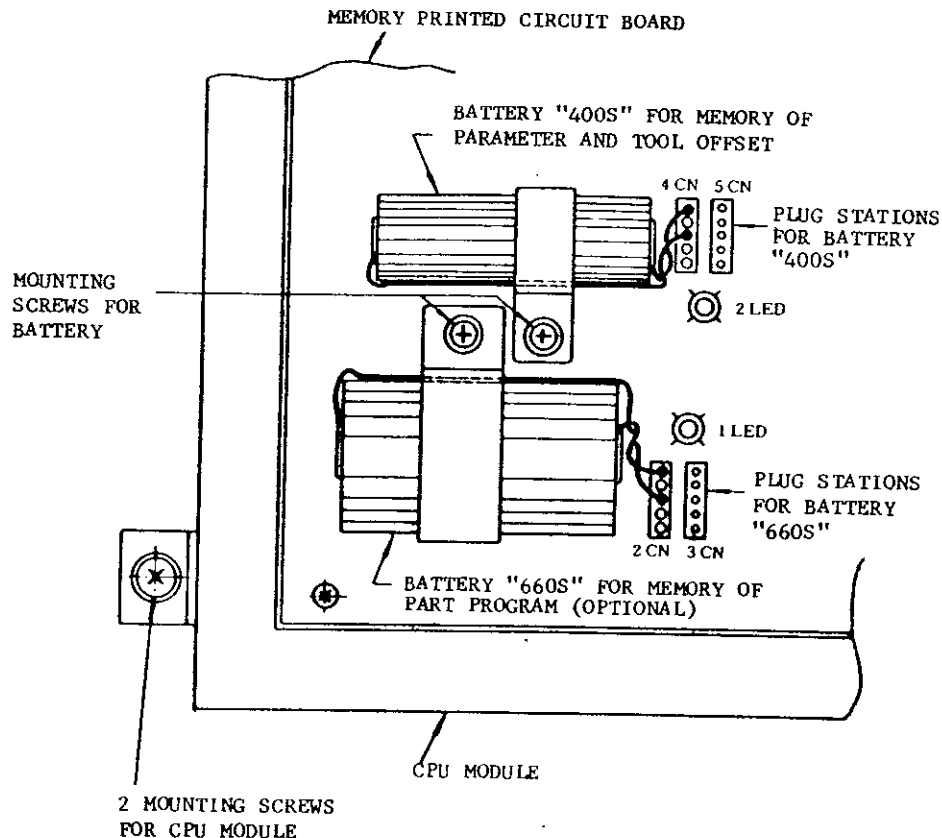

Fig. 8.2.1 Arrangement of LED and Battery
4. Check if LEDs (1LED and 2LED) on memory board are lighting. Fig. 8.2.1 shows the arrangement of LEDs and the battery.
5. With the control power turned on, connect the receptacles of the new battery into the plugs (3CN or 5CN) on memory circuit board, and LED will be turned off. See Fig. 8.2.1. If LED is still lighting, it is due to the wrong insertion of battery connectors, or poor battery charge.